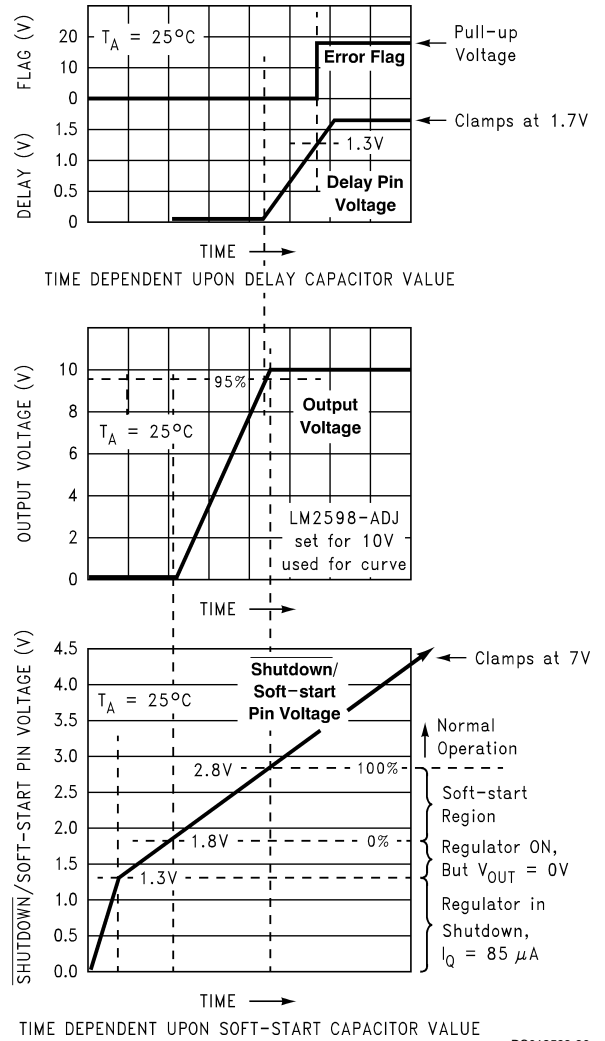

FIGURE 13. Soft-start, Delay, Error, Output
C_{SS} —A capacitor on this pin provides the regulator with a Soft-start feature (slow start-up). When the DC input voltage is first applied to the regulator, or when the \overline{SD} /Soft-start pin is allowed to go high, a constant current (approximately $5 \mu A$) begins charging this capacitor). As the capacitor voltage rises, the regulator goes through four operating regions (See the bottom curve in Figure 13).
3. Soft-start Region. When the \overline{SD} /SS pin voltage is between 1.8V and 2.8V (@ 25°C), the regulator is in a Soft-start condition. The switch (Pin 1) duty cycle initially starts out very low, with narrow pulses and gradually get wider as the capacitor \overline{SD} /SS pin ramps up towards 2.8V. As the duty cycle increases, the output voltage also increases at a controlled ramp up. See the center curve in Figure 13. The input supply current requirement also starts out at a low level for
Note: The lower curve shown in Figure 13 shows the Soft-start region from 0% to 100%. This is not the duty cycle percentage, but the output voltage percentage. Also, the Soft-start voltage range has a negative temperature coefficient associated with it. See the Soft-start curve in the electrical characteristics section.
C_{DELAY} — Provides delay for the error flag output. See the upper curve in *Figure 13*, and also refer to timing diagrams in *Figure 14*. A capacitor on this pin provides a time delay between the time the regulated output voltage (when it is increasing in value) reaches 95% of the nominal output voltage, and the time the error flag output goes high. A 3 μ A constant current from the delay pin charges the delay capacitor resulting in a voltage ramp. When this voltage reaches a threshold of approximately 1.3V, the open collector error flag output (or power OK) goes high. This signal can be used to indicate that the regulated output has reached the correct voltage and has stabilized.